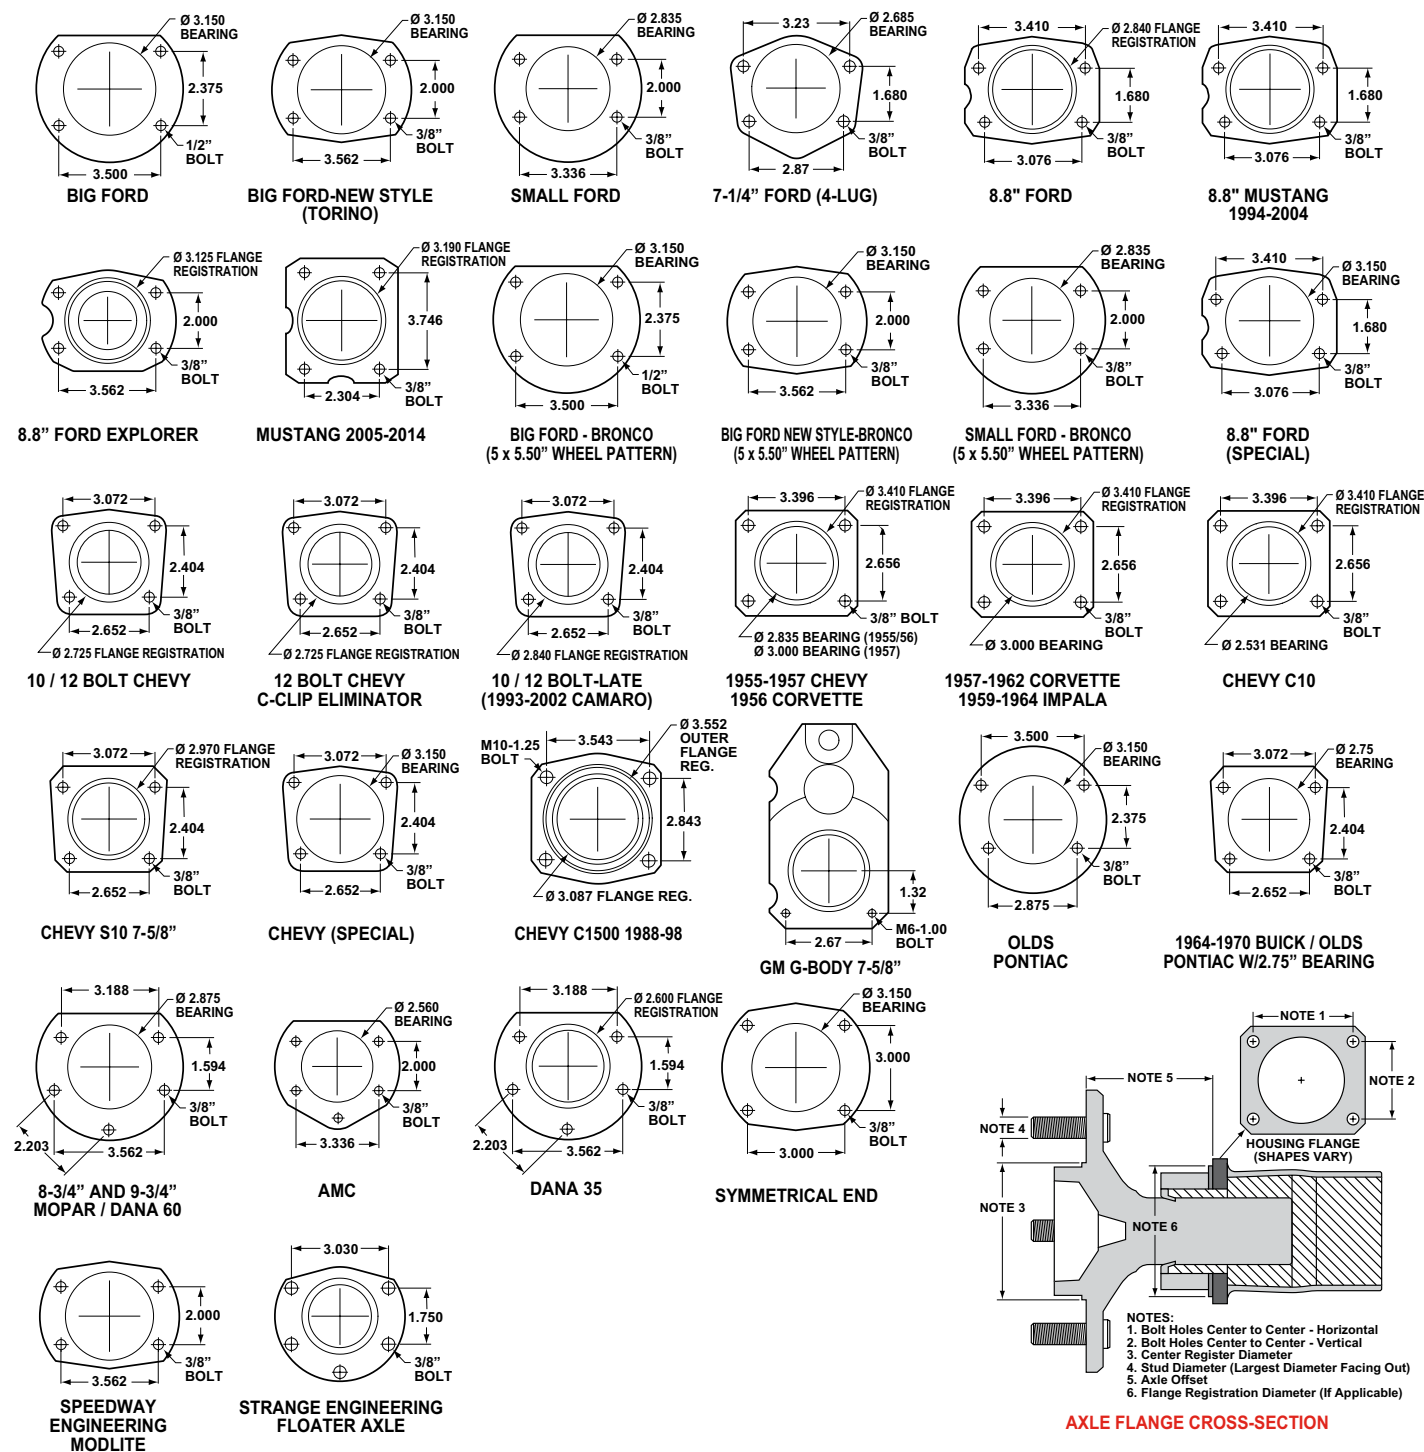

Figure 6. Rear Housing Flange Chart and Axle Flange / Offset Cross-Section
• Make sure this is the correct kit to match the axle housing flange, not necessarily the rear end make. Many times aftermarket manufacturers put a different make of flange on the stock rear end housing (see Figure 6). Example; Big Ford rear ends with Olds-Pontiac flanges, therefore, an Olds-Pontiac rear disc brake kit would be the correct kit to order.
- Bearing outside diameter (see Figure 6).
- Housing flange mounting pattern to pattern in new bracket (see Figure 6).
- Offset dimension from wheel side of axle flange to wheel side of housing flange (see Figure 6, lower right hand corner). This dimension is critical to ensure proper alignment of the rotor to the caliper, and should match offset given in